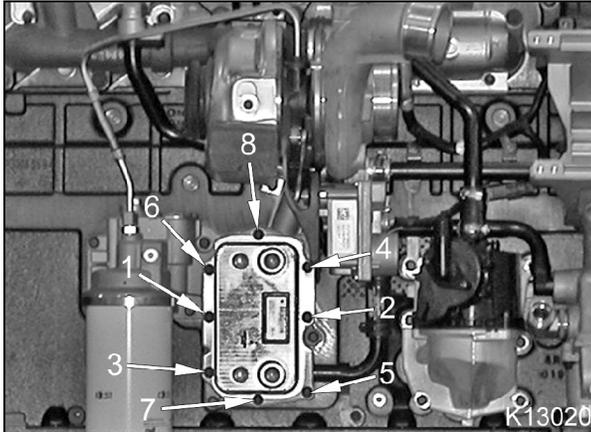

Figure 3 Torque Sequence for Cooler Heat Exchanger Bolts
11. Tighten bolts 1 and 2 (shown in Figure 3) to 20.4 N-m (15 lbf-ft).
12. Tighten eight bolts to 28.6 N-m (21 lbf-ft) in the following sequence: 3, 4, 5, 6, 7, 8, 1, 2 (shown in Figure 3).